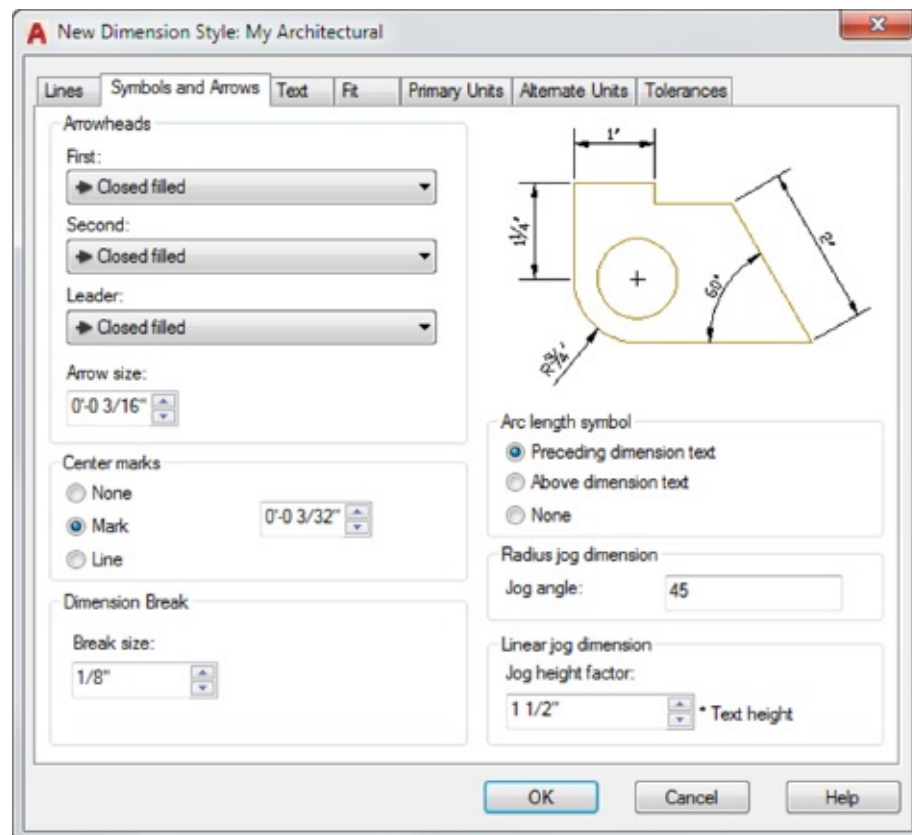

FIGURE 11.8 The Symbols And Arrows options
1. Click the Symbols And Arrows tab to display the options for controlling the arrow style and dimension line extensions (see Figure 11.8).